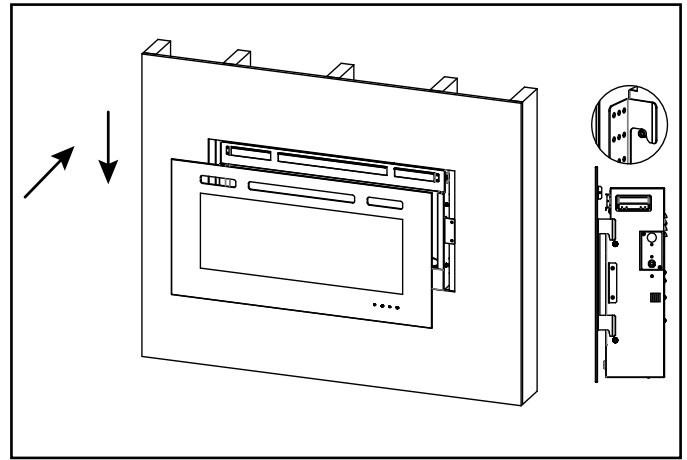

Figure 4.18 Glass Front Installation
2. Install front panel. Locate the J-hooks on the back side of the glass on the four rivnuts on the appliance opening. Press down on top edge of glass to fully engage J-hooks on the rivnuts. See Figure 4.18.